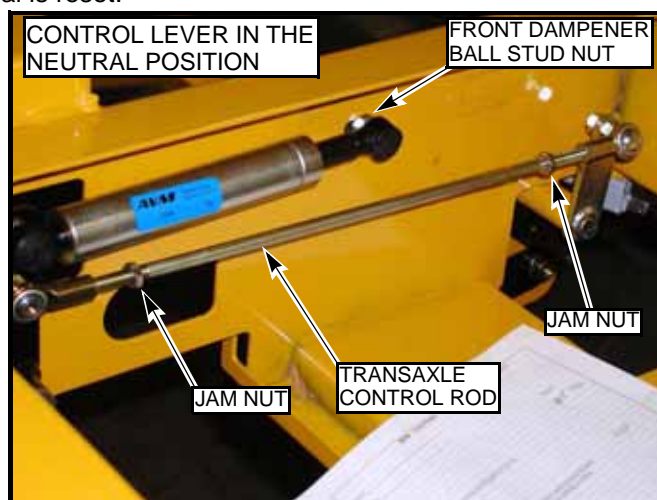

Fig. 9-31
Fine adjustment to the unit's steering is made with the transaxle control rod. Fig. 9-31
3. Loosen the front dampener ball stud nut as shown in Fig. 9-31. The dampener will be adjusted and tightened after neutral is reset.
5. Shut off the machine. Loosen the jam nuts on each end of the transaxle control rod as shown in Fig. 9-31.
9. Tighten the jam nuts on each end of the transaxle control rod. **NOTE:** Do not let transaxle control rod turn while tightening the jam nuts. Fig. 9-31
12. The steering dampener now needs to be adjusted and tightened. Fig. 9-31
2. If you have not already done so, loosen the front ball stud that is attached to the forward damper socket. Fig. 9-31
3. When the ball stud loosened, pull out on the front ball stud end and release. The damper will return to the neutral position and come to rest. Re-tighten the front ball stud. Fig. 9-31